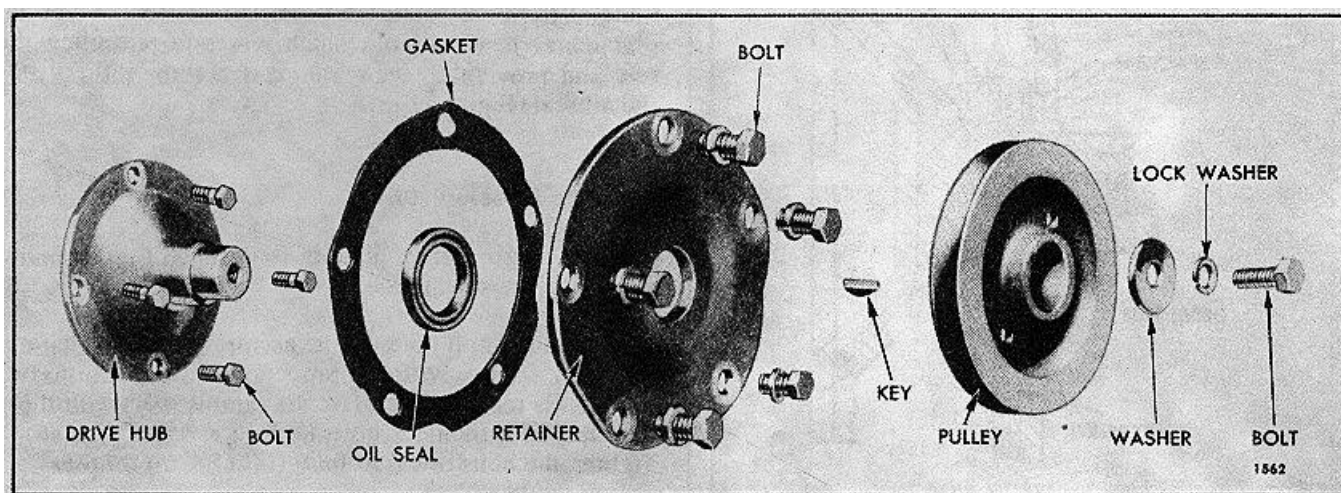
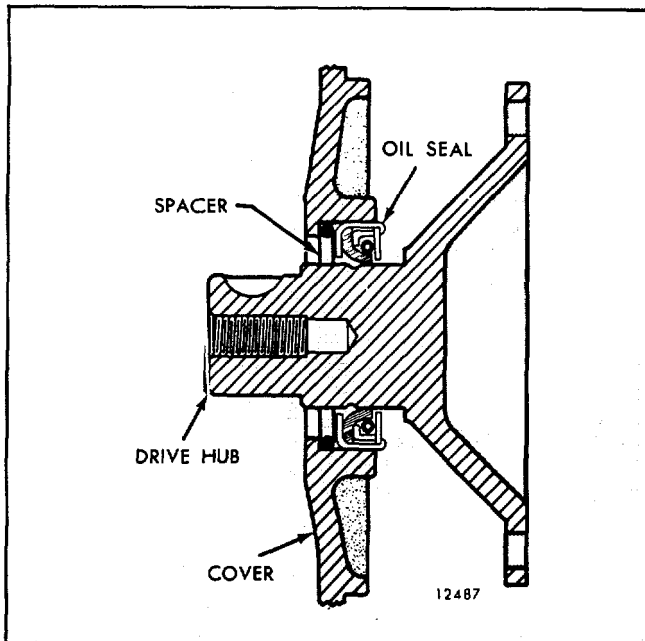

FIG.. 5 - Components of Accessory Drive for Belt-Driven Accessory (Drive Hub Type)
FIG.. 7 - Location of Oil Seal Spacer
On some engines, an accessory drive hub is bolted directly to the camshaft gear (Fig. 5). An oil seal retainer is bolted to the flywheel housing and the
If the drive hub (Fig. 5) is grooved to a point where the effectiveness of the oil seal is lost, a ring-type oil seal spacer is available which serves to reposition the seal and provide a new sealing surface for the lip of the oil seal (Fig. 7).
4. If an accessory drive hub is used, refer to Fig. 5 and proceed as follows: